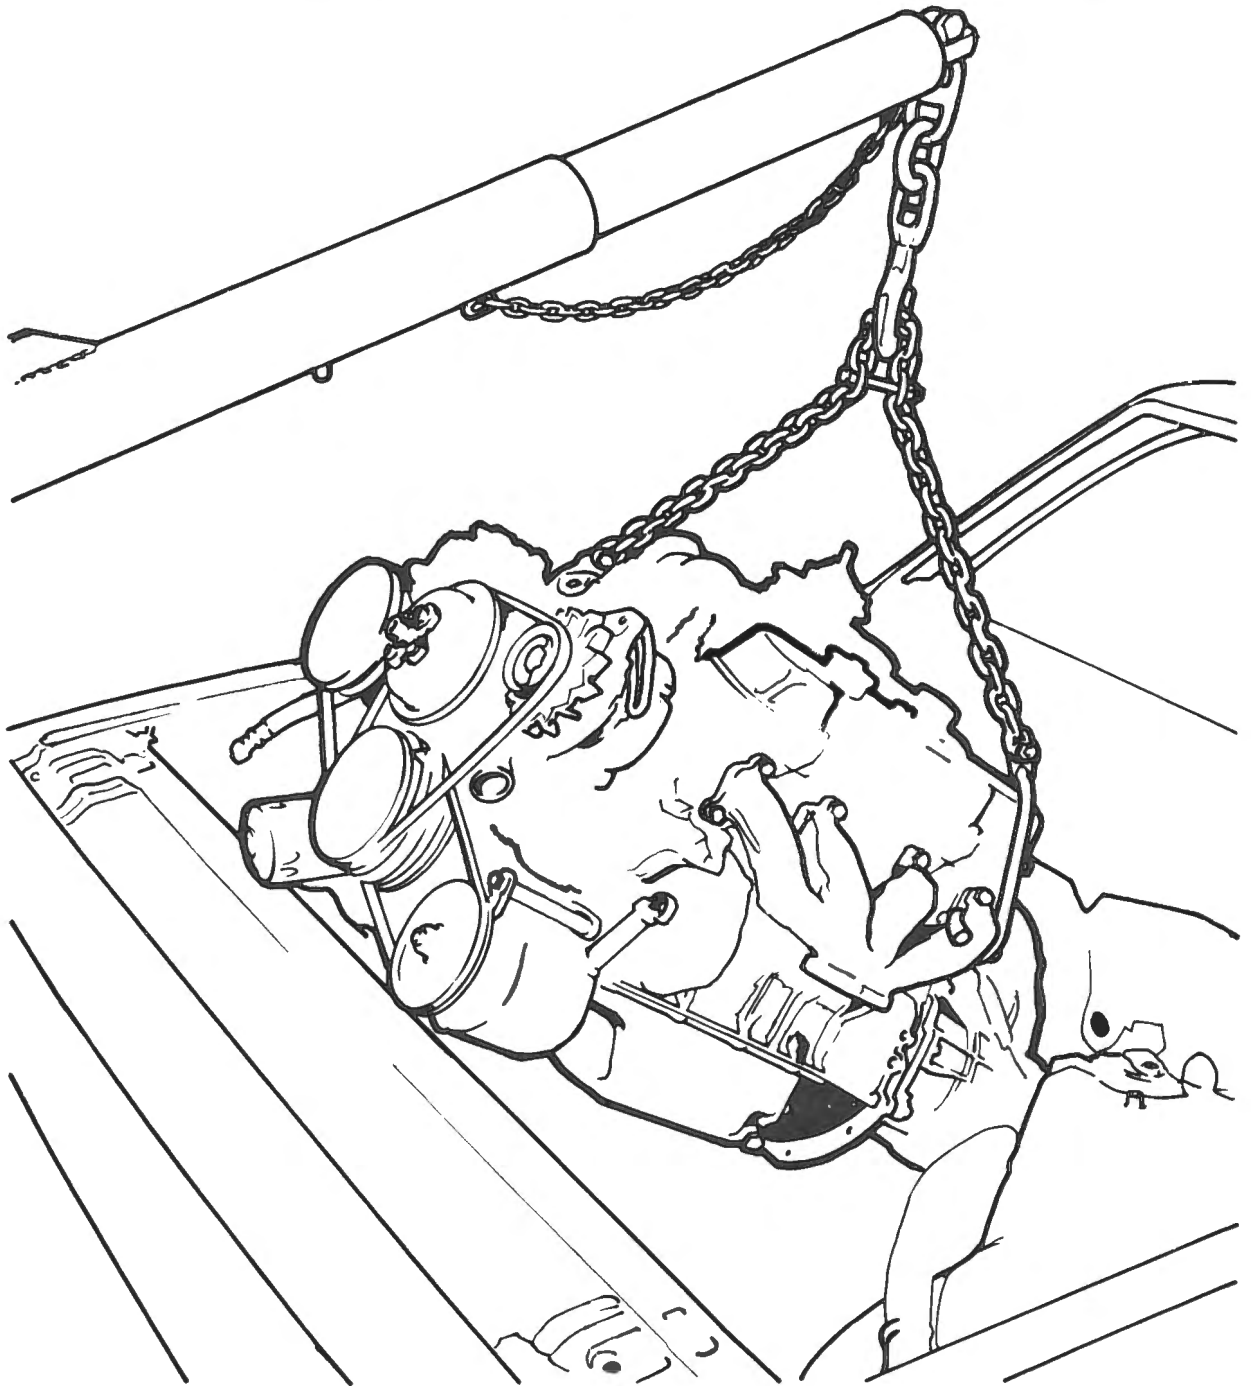

Fig. D-71
- 31 Fit engine lifting hooks and chain and support weight of power unit. Refer Fig. D-71.
- 30 Fit engine lifting hooks and chain (Refer Fig. D-71) support weight of power unit.